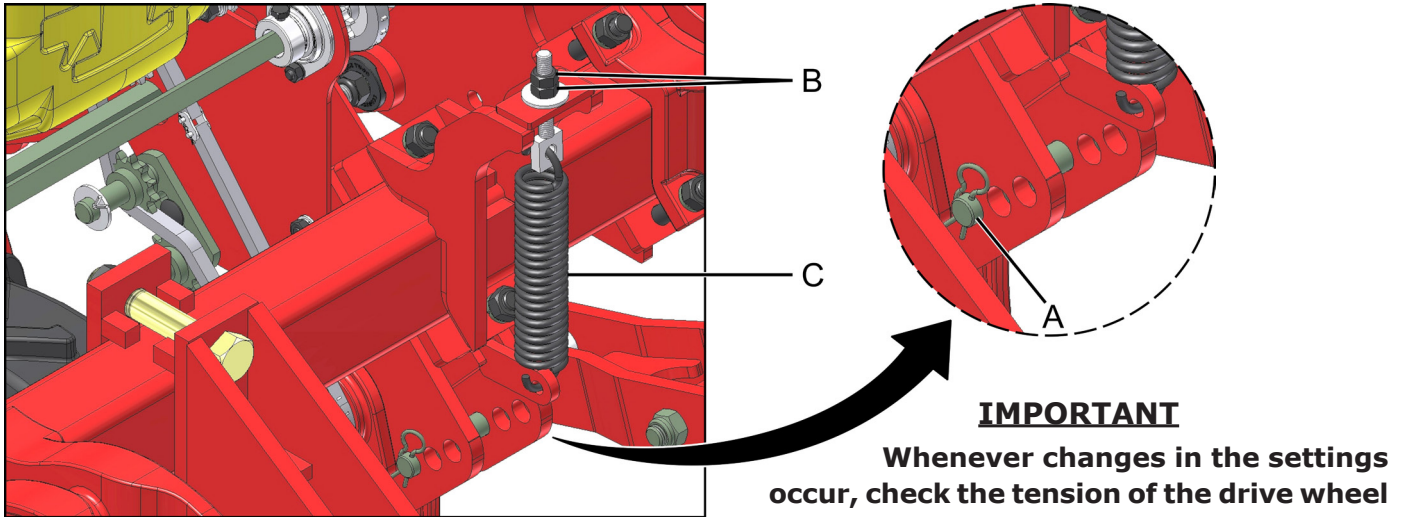

fig. 30
This adjustment allows you to adjust the height of the seeder relative to the ground surface by changing the position of the stop (A) (fig. 30). Considering that by lowering its position the seeder will work closer to the surface of the soil, the working pressure on the planting units will increase and consequently the depth.
The different positions of the seeder in relation to the ground surface also affect the working pressure on the drive wheels. The pressure can be adjusted by means of the nuts (B) (fig. 30) of the tensioner, so that by tightening it, a higher pressure is obtained in the spring (C), thus increasing wheel contact with the ground, ensuring traction and the rotation of the transmission system.